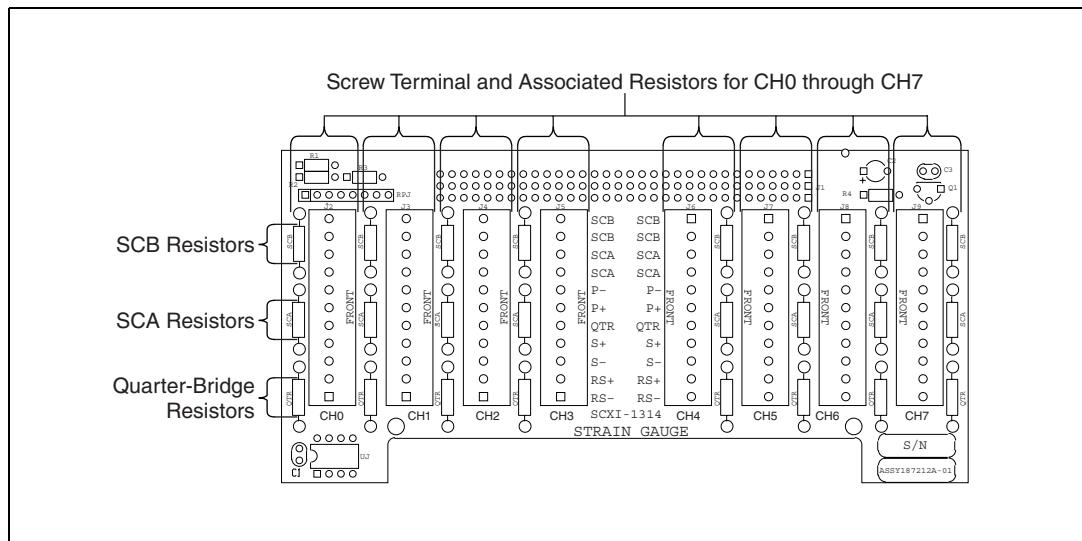

Figure 1. SCXI-1314 Shunt-Calibration Resistors and Quarter-Bridge Resistors
2. Refer to Figure 1 at the end of this document to locate the SCA and SCB resistors on the printed circuit board. SCA and SCB resistors are socketed resistors used for shunt calibration. The SCXI-1314 terminal block comes with a $100\text{ k}\Omega$, 0.1% tolerance resistor installed. However, you can replace this resistor with another one having different resistance or tolerance values. If this resistor is not a $100\text{ k}\Omega$, 0.1% tolerance resistor, modify the formulas in step 4 by replacing the resistance and tolerance values with the corresponding values from your resistor.
2. Refer to Figure 1 to locate the QTR for channel 0 on the printed circuit board. A QTR is a socketed resistor used for quarter-bridge completion. SCXI-1314 terminal blocks come with a 350Ω , 0.1% tolerance resistor installed. However, you can replace this resistor with another one having different resistance or tolerance values. If the QTR for channel 0 is not a 350Ω , 0.1% tolerance resistor, modify the formulas in step 4 by replacing the resistance and tolerance values with the corresponding values from your resistor.